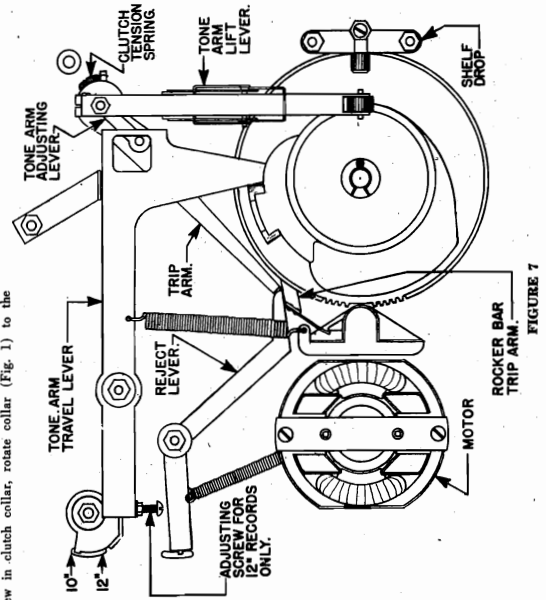

FIGURE 7
2. It may be possible that the trip arm may have jumped to the wrong side of the rocker bar trip arm, see Fig. 7. It should be on the same side as reject arm. 3. To check the trip action adjustment, place the gauge (hole marked B) on the tone arm rest and the 1/16" or 1/8" hole on the tone arm rest. When in this position the cam on the center pinion shaft should be pointing toward tone arm. With cam as stated, the starting lever should be touching cam when cam and starting lever are in this position. The tone arm tripping lever should be in contact with the starting lever. Likewise the rocker bar (Fig. 3) [bar which engages pinion gear] must be in contact (beneath) the end of the starting lever (Fig. 3). The end of starting lever may be bent sufficiently to make contact. The end of starting lever must not be bent any more than that which is necessary to center the other end of the rocker bar between the cam and the pin on the small pinion gear (Fig. 3) (running position).
To adjust tone arm drop, place gauge on turntable large hole (A) and the hole in tone arm rest. Then place tone arm so the needle sets in small hole marked "NEEDLE SET FOR 10\". Throw 10\" record lever in correct position. The tone arm adjusting lever, see Fig. 7, must have its stud in contact with the tone arm travel lever, this lever must be in contact with the die cast cam and gear. Loosen screw in adjusting lever and adjust lever, then tighten. Check operation and repeat until tone arm drops in correct position. To adjust for 12-inch records, throw lever to left place tone arm in position marked "NEEDLE SET FOR 12\". Loosen lock nut on tone arm travel lever and adjust screw to stop. Tighten lock nut and check. Repeat until needle drops in correct position.